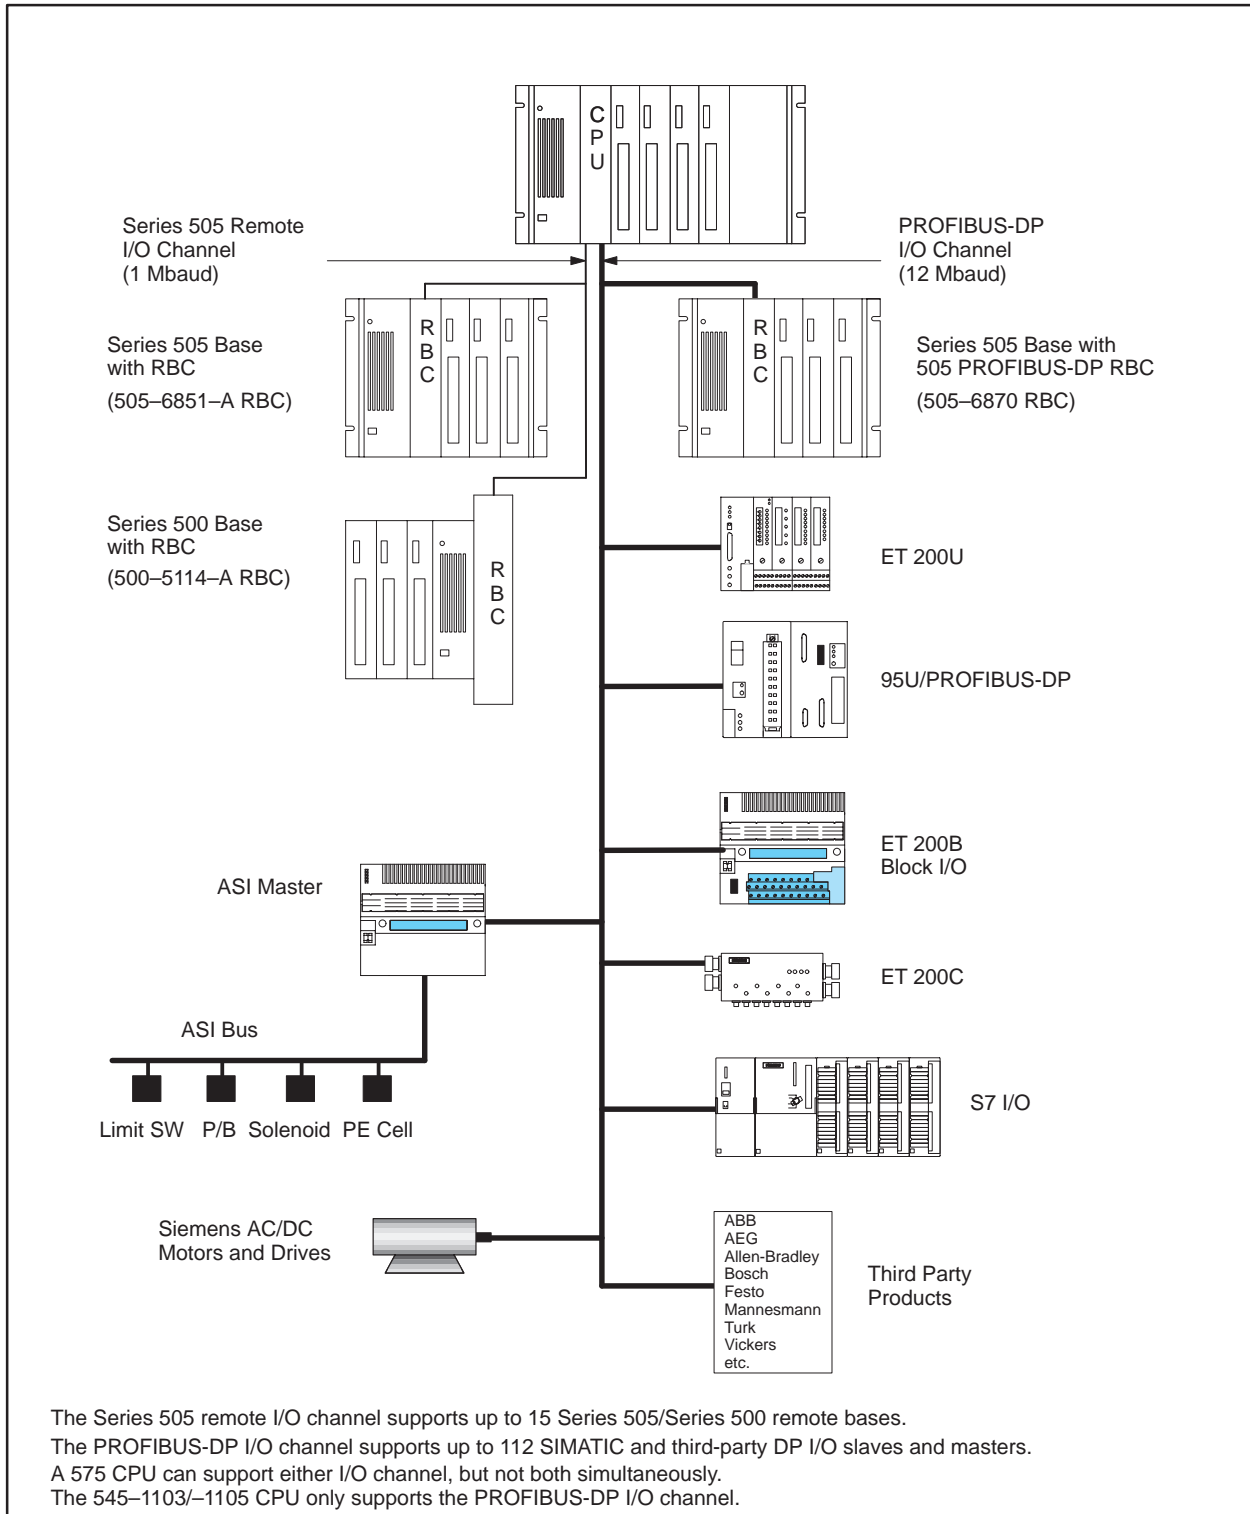

Figure 1-1 Components for the 545/555/575 System
**System Components** The programmable controller interacts with your equipment through input/output (I/O) modules that relay information between the equipment and the programmable controller. When you design your program, you need to know the physical and logical configuration of these I/O modules, how your equipment is connected to them, and how they are addressed and accessed. The relationships among the system components of the 545, 555, and 575 systems are illustrated in Figure 1-1. The 575 system has essentially the same functionality as the 545/555, with the distinction that the 575 local base is a VMEbus. For details about hardware components and installation, refer to the *SIMATIC 545/555/575 System Manual* PPX:505-8201-x).